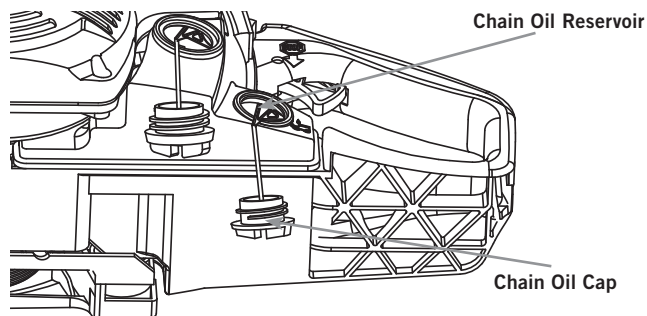

Fig. 22
3. Unscrew the chain oil reservoir cap (Fig. 22).